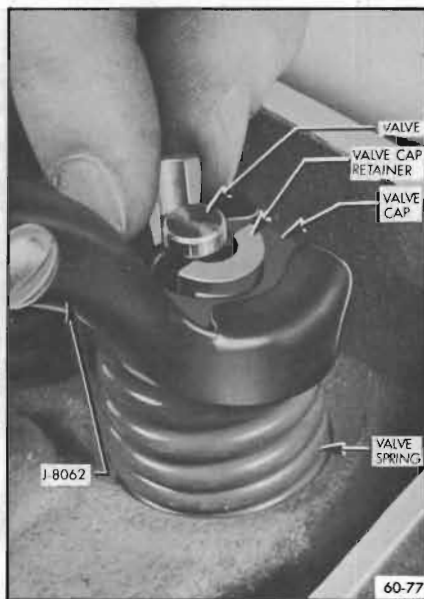

Figure 60-77—Removing Valve Cap Retainers
2. Using suitable spring compressor, such as J-8062, compress valve spring and remove cap retainers. Release tool and remove spring and cap. See Figure 60-77.